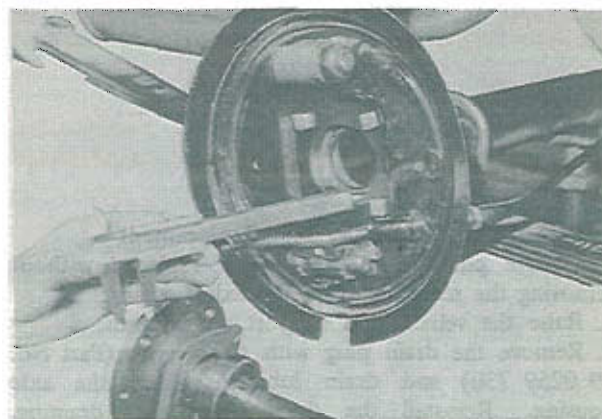

Fig. 9-8 Measuring of bearing seat depth
2. Check the rear axle shaft end play as follows: Install the brake backing plate and measure the depth of the bearing seat in the axle housing, using a depth gauge as shown in Fig. 9-8. Then, measure the width of the bearing.